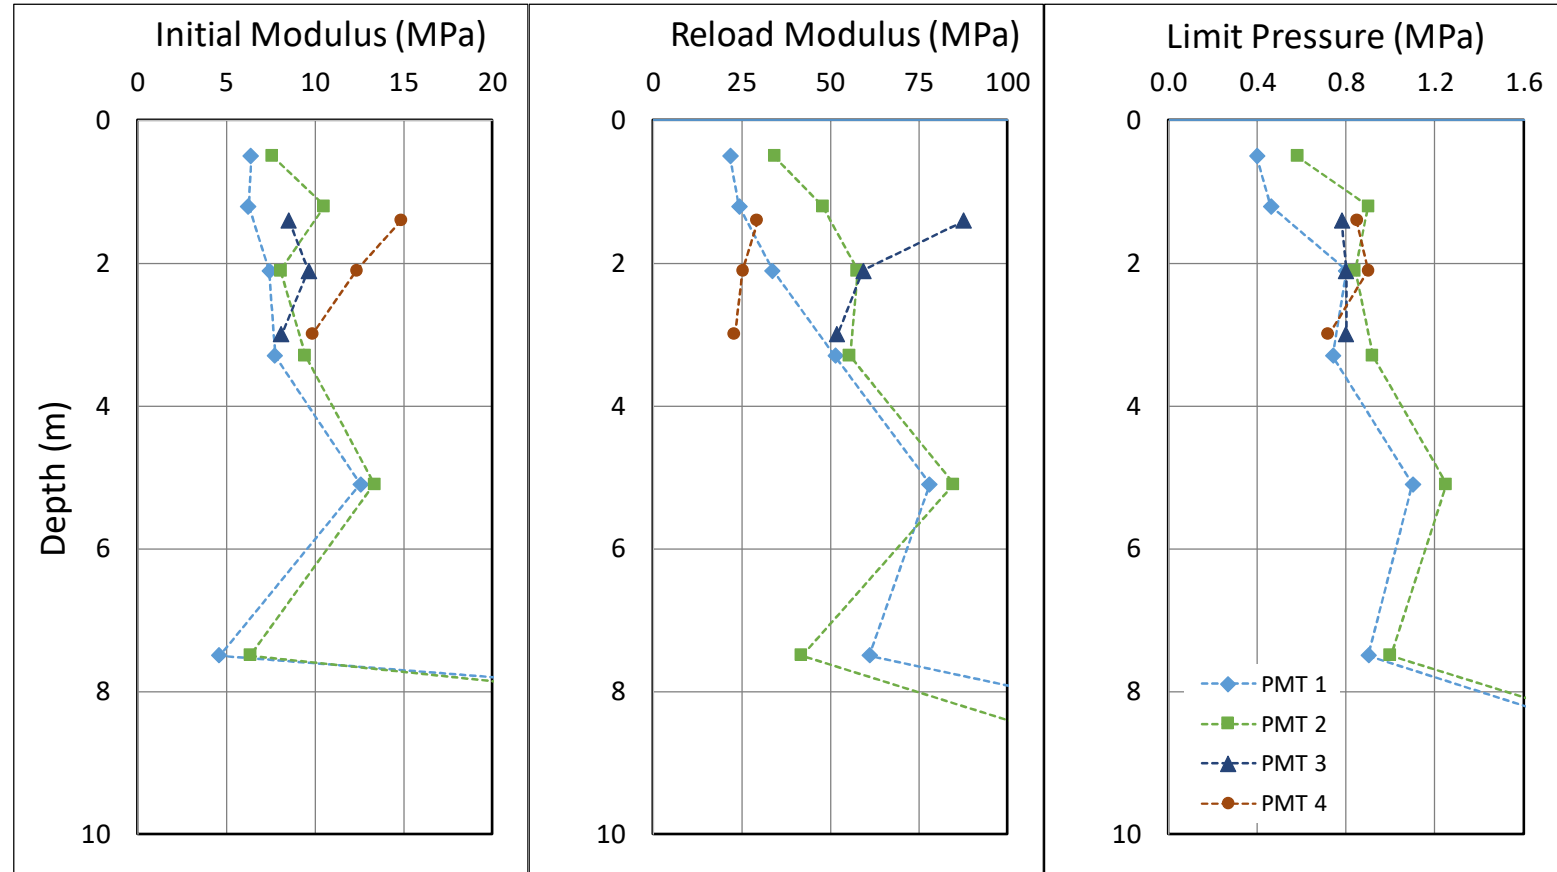

Figure B5: SAND PROFILE - Summary of Pressuremeter results
- Figure B5: Pressuremeter test results